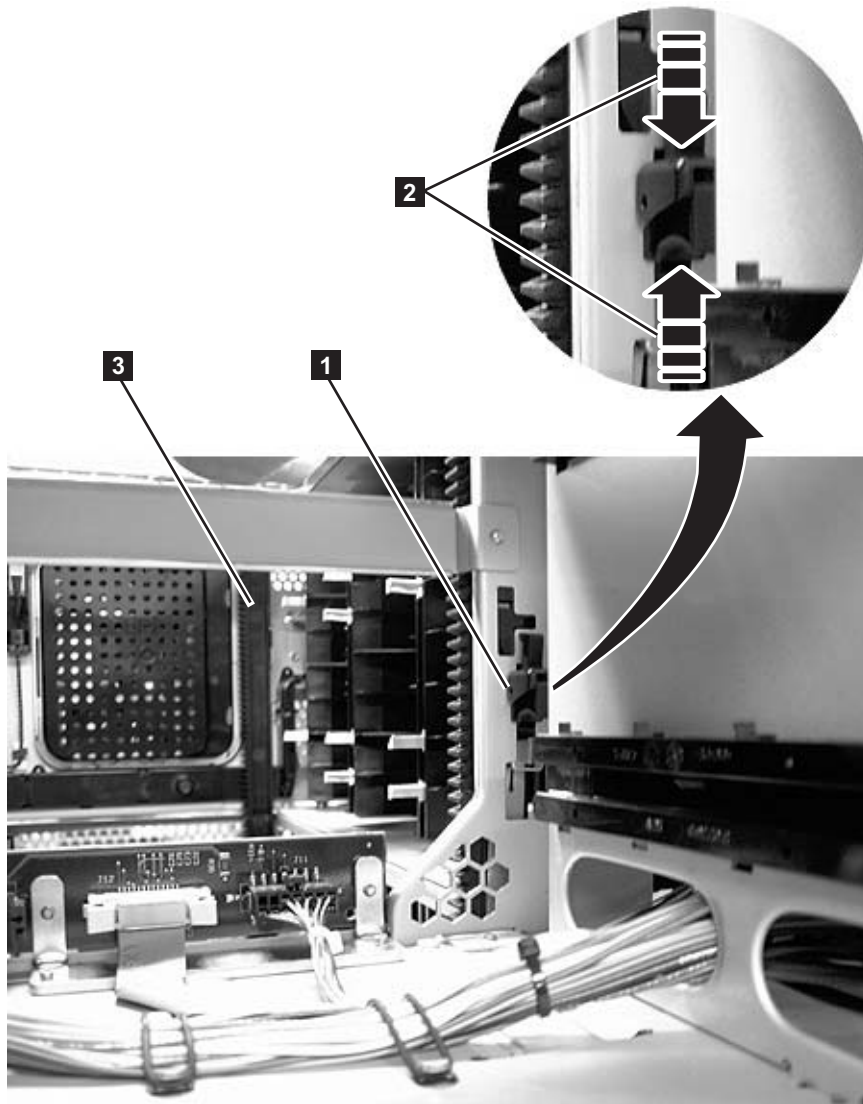

Figure 12-16. Gear rack
In order for the picker to move from one unit to the next in a multi-module library, the front (**3** in Figure 12-16 on page 12-18) and rear (**1** in Figure 12-16 on page 12-18) gear racks in the control module must be properly aligned with the gear racks in the expansion module.
Verify that the front (**3** in Figure 12-16) and rear (**1** in Figure 12-16) gear racks are properly aligned and positioned.
- In the bottom module of the library, verify that the gear racks are in the down position. Pinch the gear rack locking mechanism (**2** in Figure 12-16) and push the gear rack down. Ensure that the lock is not engaged in the hole in the frame.
- Verify that the gear racks are in the down position. Pinch the gear rack locking mechanism (**2** in Figure 12-16) and push the gear rack down. Ensure that the lock is not engaged in the hole in the frame.
- Slightly push up and pinch the gear rack locking mechanism (**1** in Figure 12-16 on page 12-18) to unlock the gear rack in the control module.
- While pinching the gear rack locking mechanism (**2** in Figure 12-16 on page 12-18), push the gear rack down until it aligns with the gear rack in the expansion module, then release your hold on the locking mechanism.